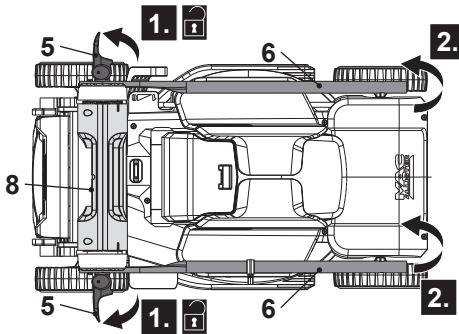

Fig. 1
1. Unfold and loosen the clamp levers (5) anti-clockwise on the lower handle bars (6), but do not remove them (Fig.1, step 1).
2. Grasp the lower handle bars (6) and unfold them from storage position to work position (Fig. 1, step 2).